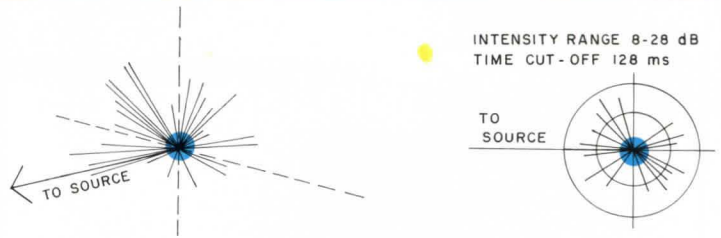
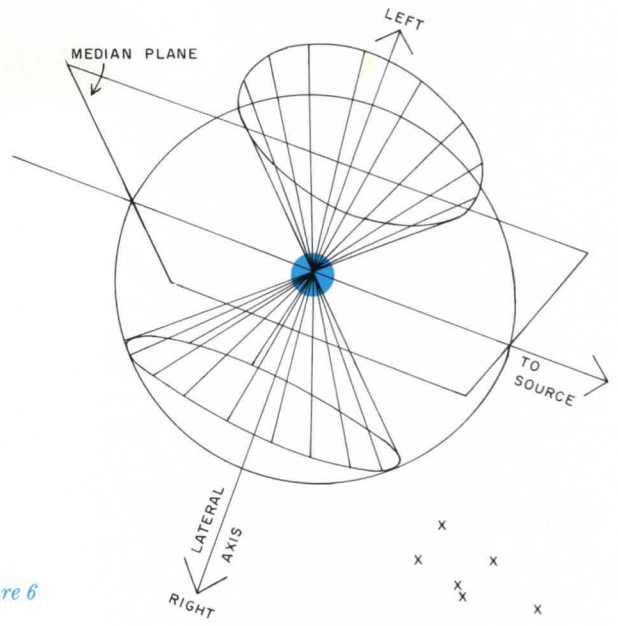

Figure 5
Figure 6
3) to that arriving from directions close to the median plane—that is to say, from directly in front, behind or above (Figure 6). The ear/brain will integrate that portion of the reflected sound intensity arriving during the first quarter of a second or so after the arrival of the direct sound into one impression of "room sound" so that one is not aware of the individual "arrivals" of sound. This fact suggests rather surprisingly that sound heard directly from the source can reduce the listener preference for symphony music! Needless to say, lateralization is not the only characteristic that affects listener preference; however, the suggestion is perhaps less surprising when one considers that the best acoustics in concert halls are usually found farthest from the stage (in the rear of the top balconies), and that often the worst acoustics are much nearer the stage (the front of the main floor seating area).
A particularly useful analytical tool for studying directional information gained from the computer model is the "soundrose" (Figure 5). The soundrose shows the impulse response of an auditorium in terms of *direction* and *intensity* of reflected sound energy. The orientation of the radial lines on the soundrose indicates the direction from which reflected sound waves arrive. The length of a radial line indicates the magnitude of the sound intensity—more precisely, proportional to the component of the logarithm of intensity magnitude in the plane passing through the lateral axis and the listener's line of sight to the source.
For the purposes of the present, very general discussion, we can place all angles of incidence into the categories *lateral* and *nonlateral*. Nonlateral angles are those close to one's line of sight to the sound source, directly overhead, and centrally behind—i.e., those near the so-called median plane (Figure 6). Lateral angles are perpendicular to nonlateral ones: one's ears are directed toward lateral angles. Sound arriving from directions near the lateral axis contributes most to lateralization. We can generalize that sound arriving from directions within the cones shown in the illustration is lateral sound, and sound arriving from outside the cones is nonlateral.
*The soundrose, shown here in both perspective and plan (Figure 5), depicts the direction and the magnitude of intensity of reflected sounds as they arrive individually to the listener. Because the lateral and nonlateral components of sound are of most interest acoustically, the plan projection of the soundrose is often the most informative. The lateral axis of sound passes into the listener's ears, while the median plane passes vertically through the center of the head in the direction of the listener's sightline to the sound source (Figure 6). In general, sound arriving from directions falling within the two 90 deg cones shown on the lateral axis contribute the most to lateralization.*